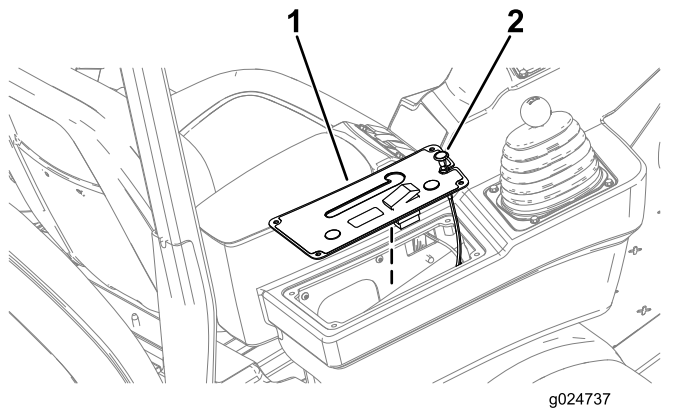

Figure 14
- Lift the control-panel cover and the choke control (Figure 14).